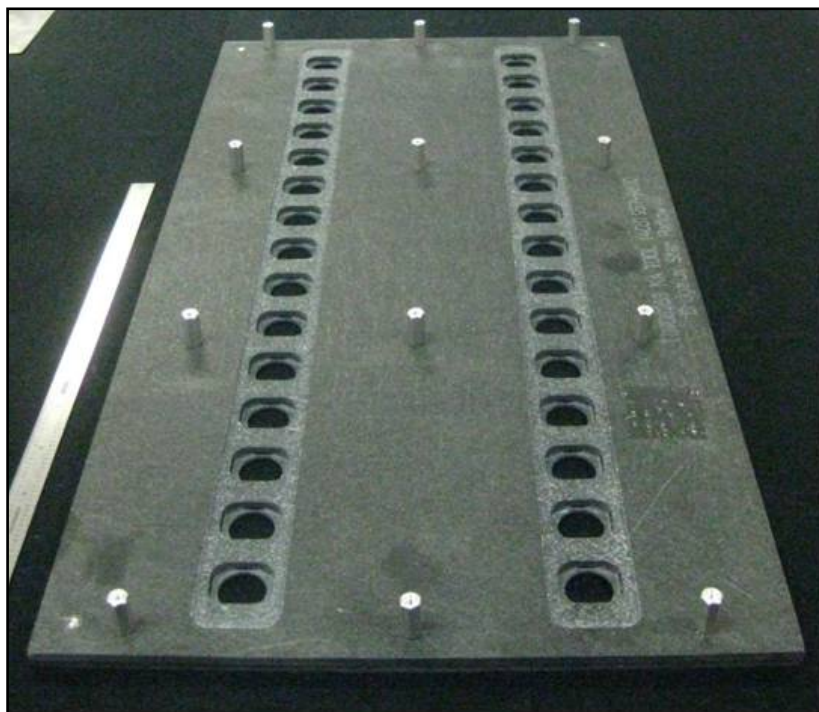

Figure 16: Solder reflow fixture for Rectangular LED Arrays with both plates clamped together using screws
5. After all LED Arrays and wires are loaded, place the top plate on top of the bottom plate and fix it in place using screws (Figure 16). The LED Array solder reflow fixture is then ready to be loaded onto the reflow oven.